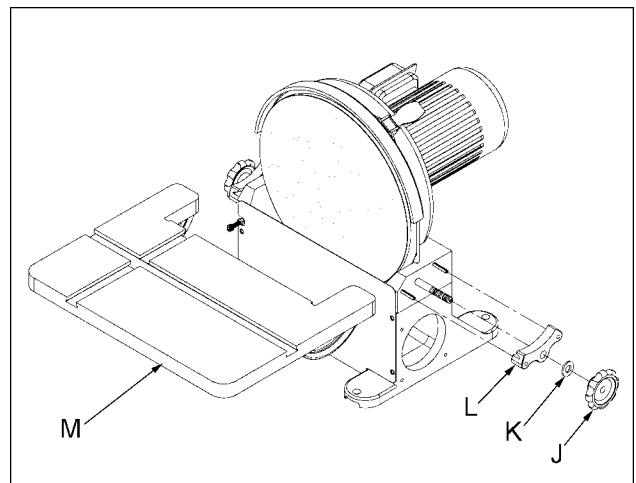

Fig. 6
2. Remove the knobs (J, Fig. 6), washers (K, Fig. 6), and trunnion holders (L, Fig. 6) followed by the table assembly (M, Fig. 6).